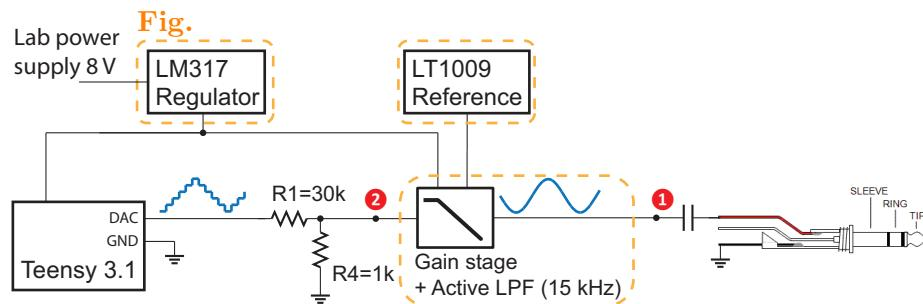

Figure 15: Acquiring signal through computer sound card.
1. Set up the system according to Fig. 15.
7. Now use the audio cable to acquire the signal after the gain stage (position 2 in Fig. 15). Record the data and compare it with that from the last step. Explain the difference, if there is any.